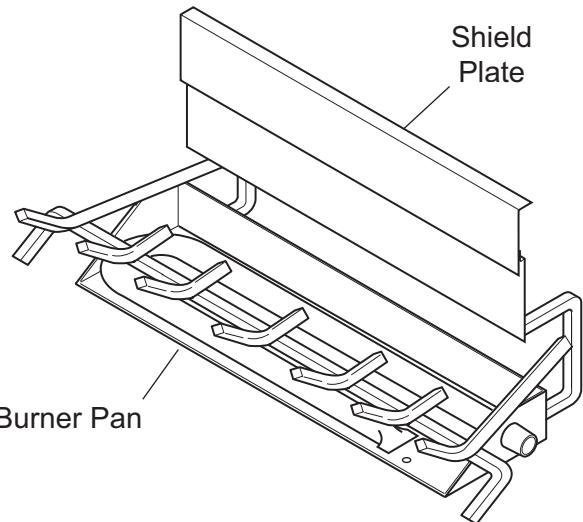

Figure 35 - Sliding Shield Plate Down Back of Burner Pan
1. Slide shield plate down back of burner pan. See *Figure 35*.